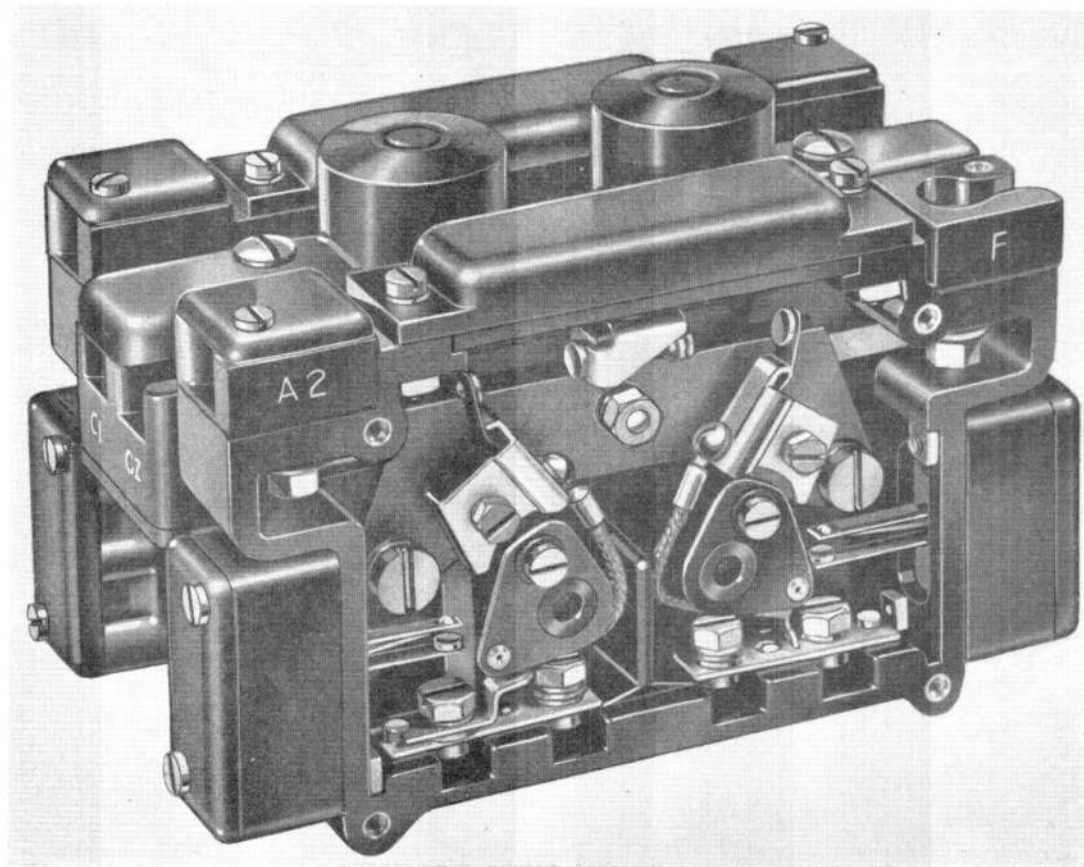

Fig. 2. Sectional view of a typical unit
6. A more detailed view of a typical unit in the series is given in fig. 2, which shows the general arrangement of the components.